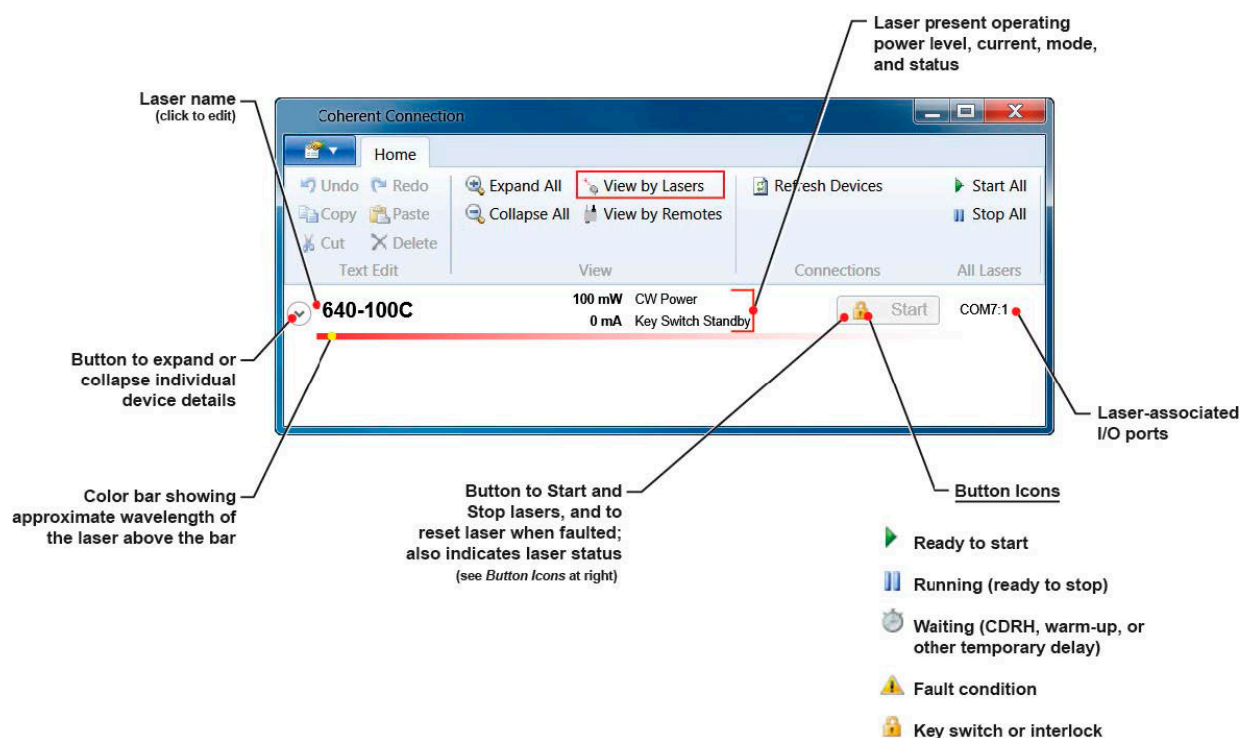

Figure 4-16. Top Level View Explained
The example in Figure 4-16 shows a laser in operation for Continuous Wave (CW) mode operation with explanations for the screen elements.
The button becomes a Start button and shows that the laser is in operation. Clicking the button when in this state stops the laser. Refer to Figure 4-16 for descriptions of different button states.